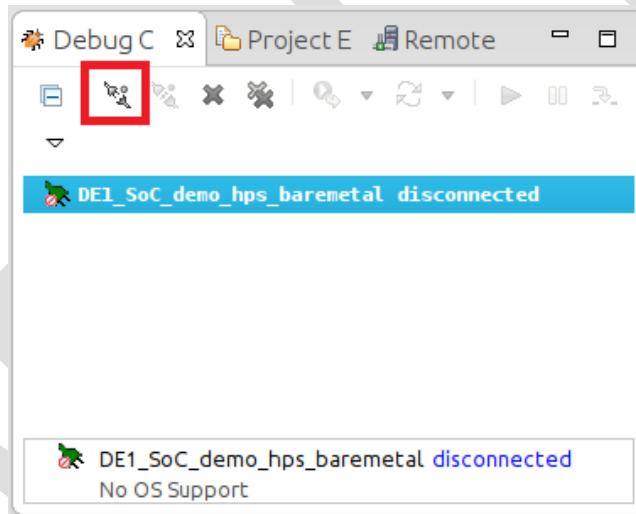

Figure 8-38. Debug Control View
- In the "Debug Control" view, click on the "DE1_SoC_demo_hps_baremetal" entry, then click on the "Connect to Target" button, as shown on Figure 8-38. Our debug script will load and execute the preloader, then it will load and wait at our application's "main()" function.